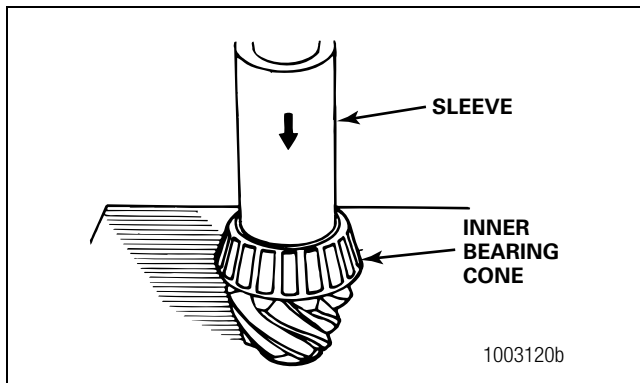

Figure 5.1
1. Place the drive pinion into a press with the gear head teeth toward the bottom. Figure 5.1.